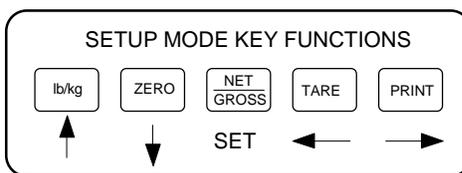

Figure 6-1: Setup Menu Key Assignments
3. Use the four directional keys (shown in Figure 6-1 below) to adjust the displayed value to the actual test weight value. Increase the flashing digit by pressing the lb/kg key. Decrease the flashing digit by pressing the ZERO key. Pressing the TARE key or the PRINT key will change the position of the flashing digit.
2. The display will momentarily show "**CAL 0**", followed by a flashing zero. Use the four directional keys (shown in Figure 6-1) to adjust the displayed value to the zero calibration value.
2. The display will momentarily show "**CAL 1**", followed by a flashing zero. Use the four directional keys (shown in Figure 6-1) to adjust the displayed value to the span calibration value.